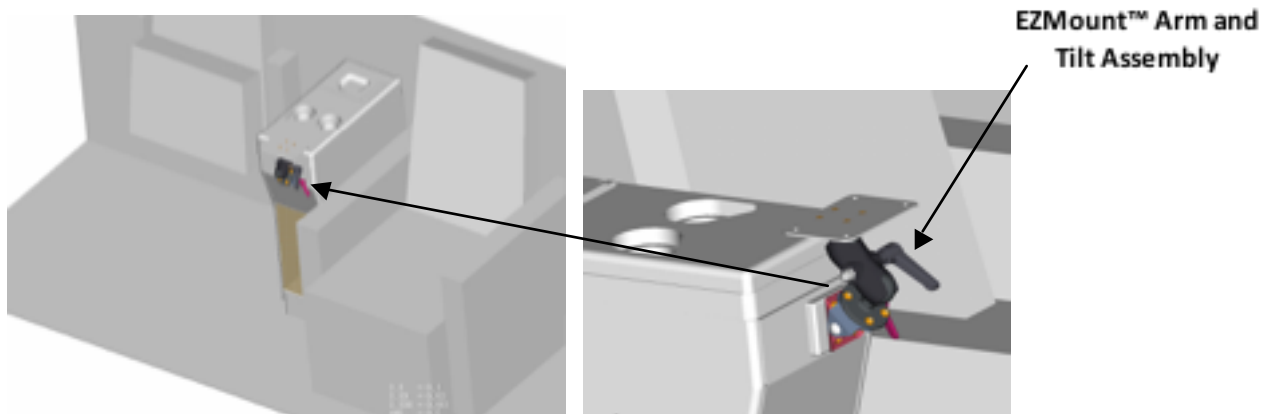

FIGURE 3:
- » The installation of an EZMount™ arm and tilt assembly onto the front face of the sliding tray drawer on the center monument located between both observers. The modification will require the drawer front panel to be removed and a replacement will be installed to mount the EZMount™ arm and tilt assembly (see Figure 3).